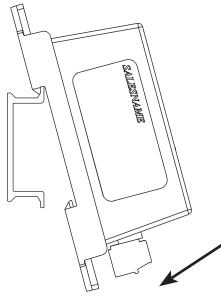

Fig. 4: Catch EZ Mount hook on DIN rail before rotating sensor into place
- Catch EZ mount hook on DIN rail as shown in Figure 4.